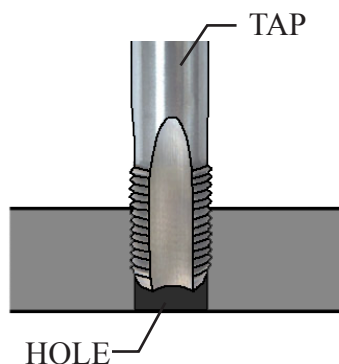

Figure 13
4) Tap the hole using the $1/8$ " NPT pipe tap. See Figure 13.